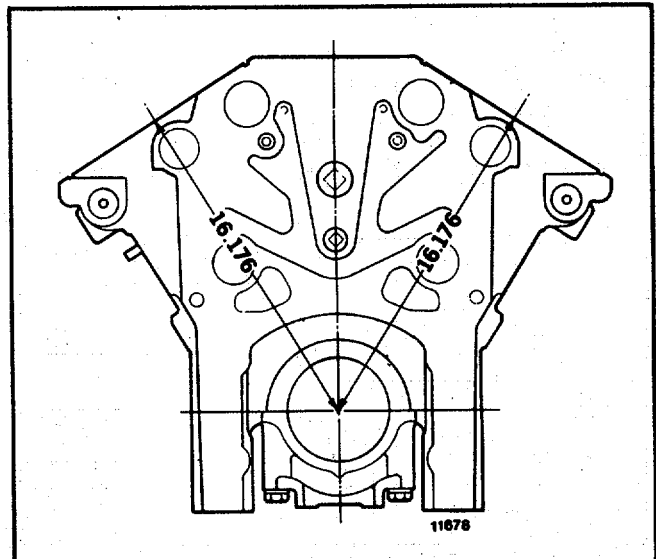

FIG. 13 - Minimum Distance from Centerline of Crankshaft to Top of Cylinder Block
- b. If it is necessary to machine these surfaces to correct for the above conditions, do not remove more than .008" of metal. Stamp the amount of stock removed on the face of the block. The distance from the centerline of the crankshaft to the top of the cylinder head surface of the block must not be less than 16.176" (Fig. 13).